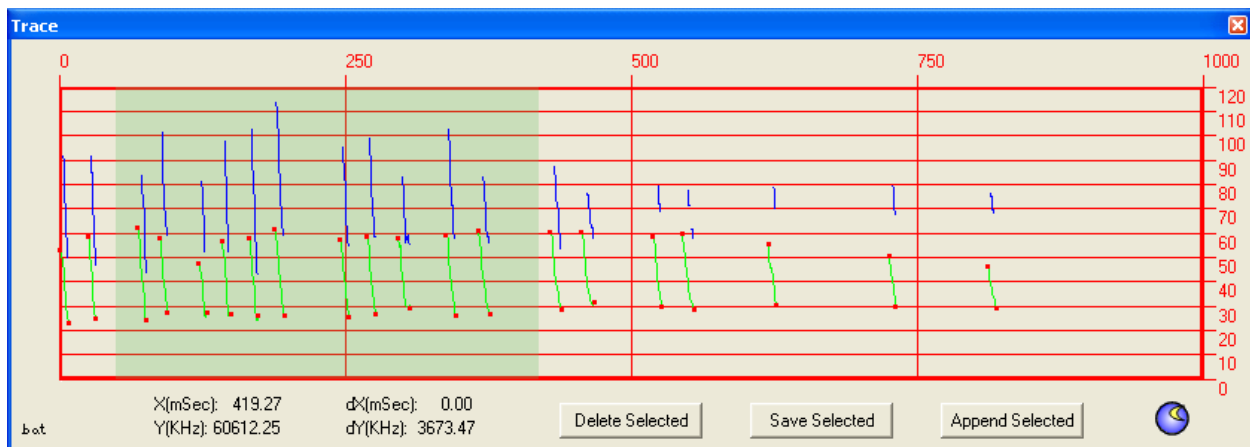

Figure 20: Trace Window
- 2) To select a group of calls, simply drag the mouse over the region of interest while holding the left mouse buttons down. This will highlight the entire area with a green background as shown in figure 20.
The output format is an open format that can be processed by second and third party applications. In addition, the format can be read into standard spreadsheet applications, such as Microsoft Excel as show in figure 20.